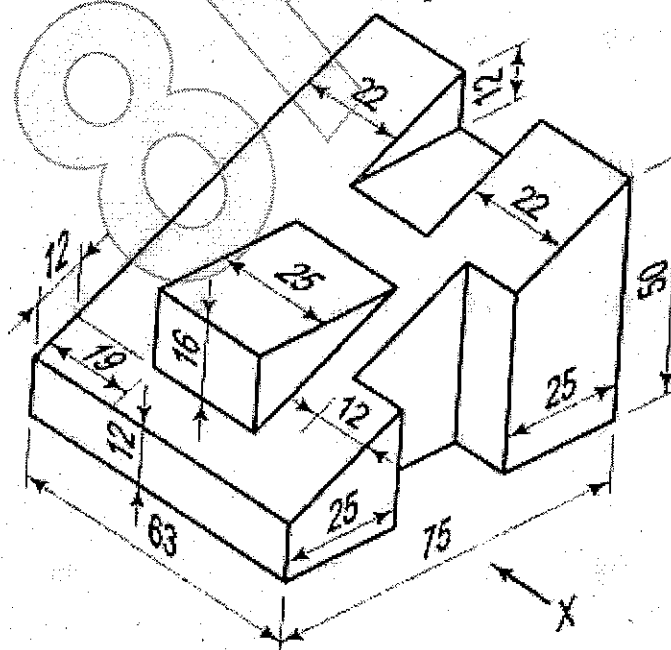

Figure: 3
10. Draw the following views of the object shown in figure 3. All dimensions are in mm.